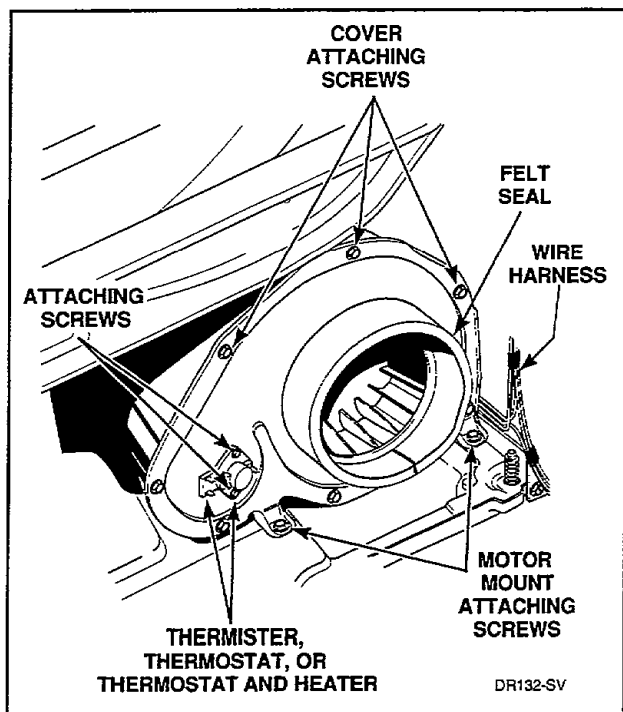
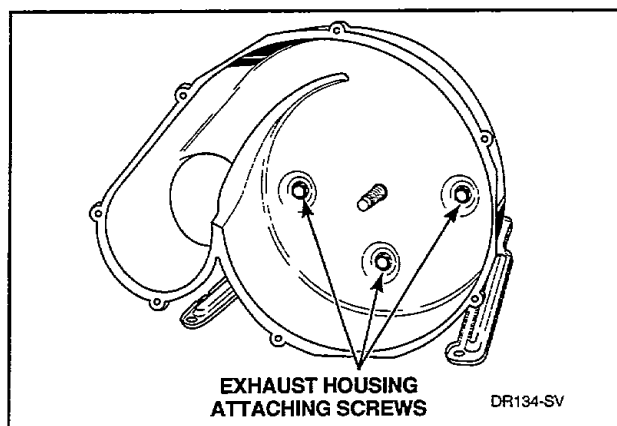

Figure 24
Figure 28
- Disconnect wires and refer to *Figure 24* for thermistor, thermostat or thermostat and heater removal.
IMPORTANT: When reassembling, make sure felt seal on exhaust fan cover makes airtight seal on flange of duct, *Figure 24*. If the seal is installed improperly, the airflow through the exhaust system will be restricted which can cause fire and dryer malfunction.
- e. Disconnect wires from thermister, thermostat, or thermostat and heater, *Figure 24*.
- h. Remove two screws holding motor mounting bracket to dryer base, *Figure 24*.
- (1) Remove screws holding cover to housing, *Figure 24*.
- (2) Hold motor pulley securely and unthread impeller from motor shaft (right hand thread). Use a 7/8 inch, 6 point socket to aid in the removal of the impeller.
- (3) Remove three screws holding the exhaust housing to the motor mounting bracket, *Figure 28*.